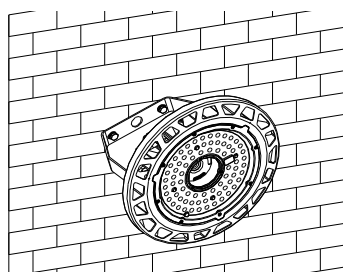
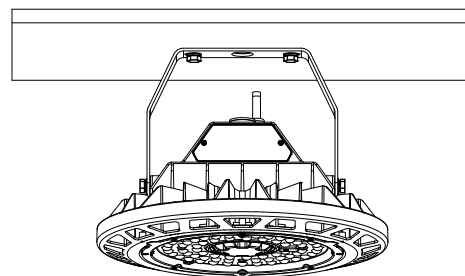

FIG. 5
FIG. 6
3. Fix the fixture on Mounting Surface. See Fig. 5, Fig. 6.